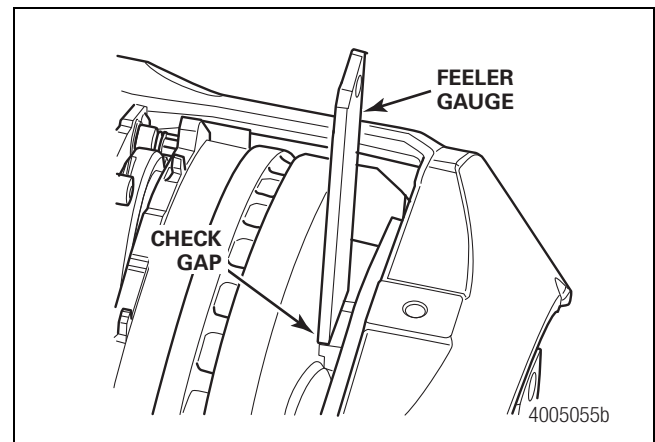

Figure 7.8
2. Check for uneven rotor wear on both the inboard and outboard sides of the rotor. To perform this check, place a feeler gauge between the rotor surface and carrier pad abutment. Maximum allowable gap is 0.236 inch (6 mm). Figure 7.8.